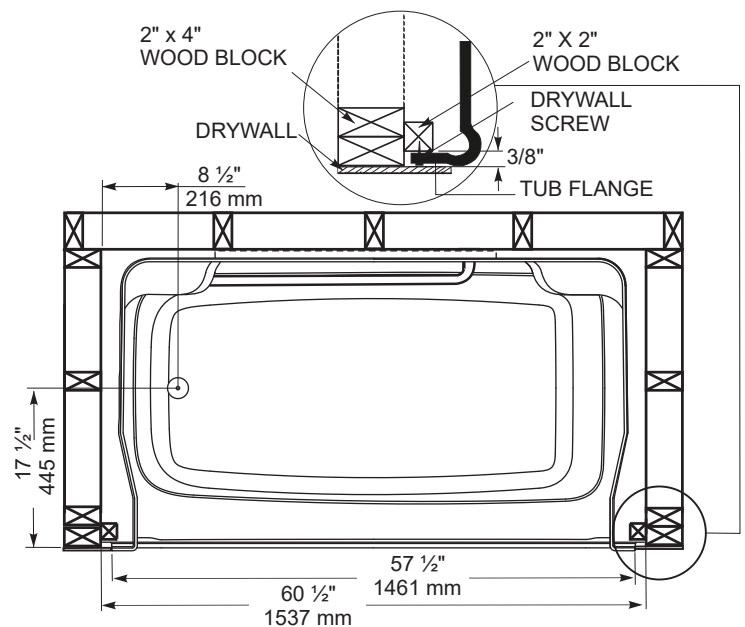

FIGURE 2
- Follow Figure 2 as specified to ensure width is 57 1/2" between the 2" x 2" recessed studs. (See detail view.)